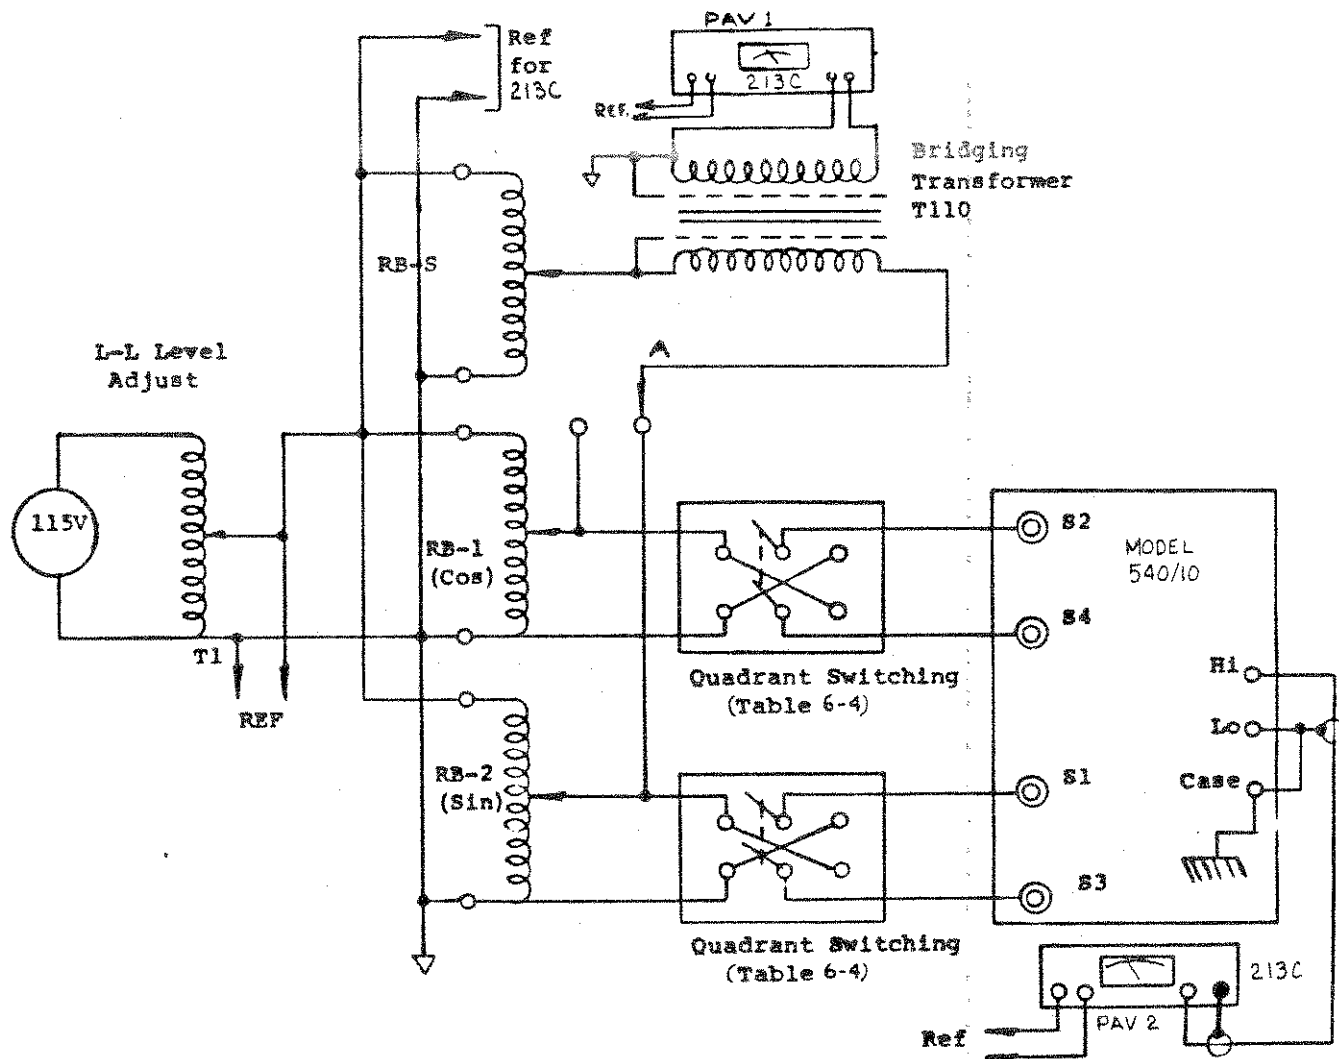

Figure 6-3. Hookup for Calibration Procedure II
- a. Connect equipment as shown in figure 6-3.